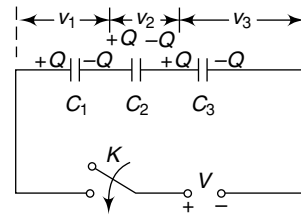

Fig. 1.14 Capacitors in series connection
(a) Capacitors in Series Let us assume three capacitors of capacitances (C_1), (C_2) and (C_3) are connected in series across a dc supply of potential difference (V) through a switch K (Fig. 1.14). On closing the switch, the capacitors get charged and at steady state the p.d. across (C_1), (C_2) and (C_3) are (V_1), (V_2) and (V_3) respectively while the charge in each capacitor is (Q) (since the capacitors are connected in series, same charging current would flow resulting in accumulation of charge (Q) in each capacitor).